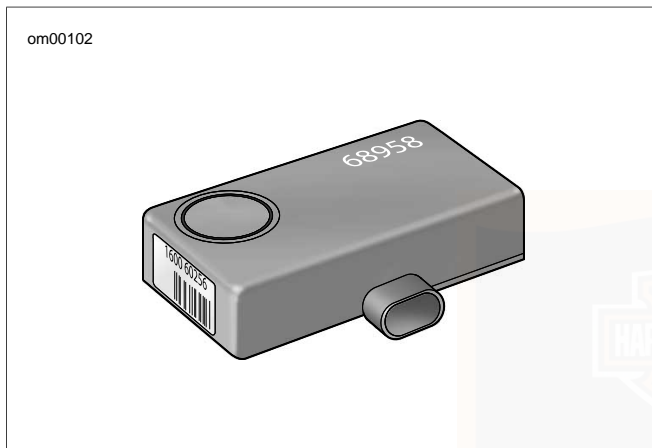

Figure 42. Siren
- See Figure 42. If the siren is armed and the internal siren battery is dead, shorted, disconnected, or has been charging for a period longer than 24 hours, the siren will respond with three chirps on arming instead of two.